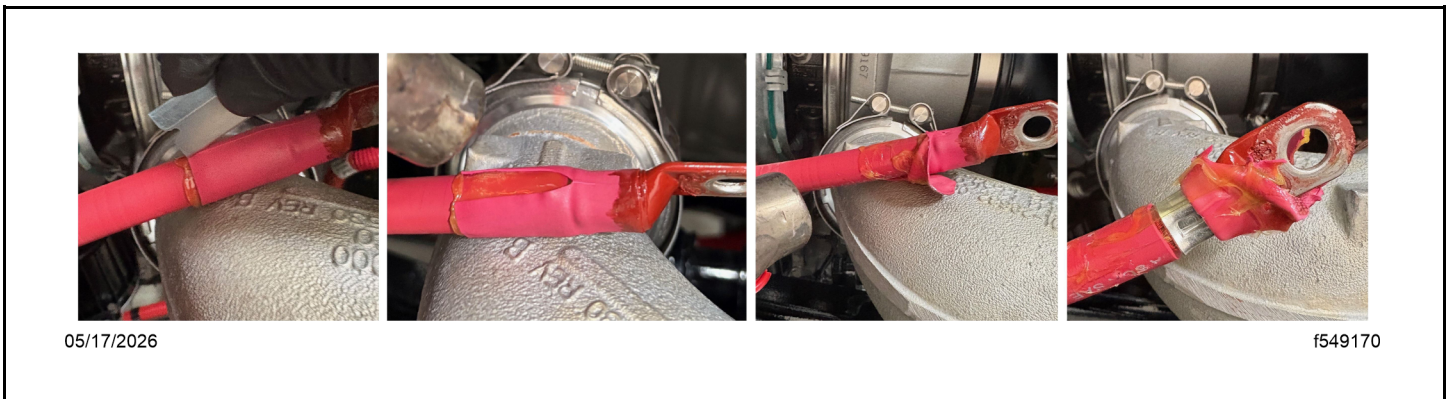

Fig 50, Heat Shrink Removal
- b. Remove the original heat shrink. To do so, heat it, score it, and continue to heat it until the score splits and the adhesive softens. See Fig. Fig. 50.